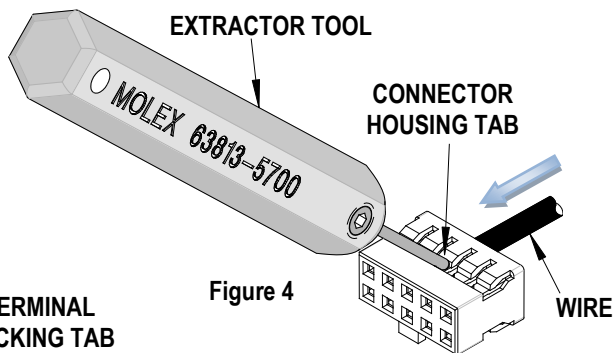

Figure 4
2. Insert the round tip of the extractor tool under the appropriate housing tab. See Figure 4.
3. Gently lift up on the housing tab, and push the terminal back through the connector slot. While pulling the terminated wire out in the direction of the arrow. See Figure 4.